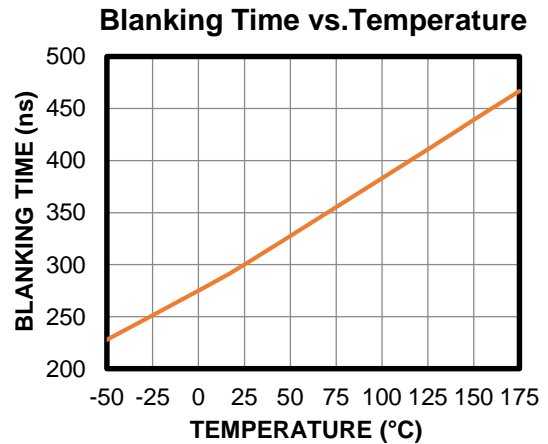

Figure 2: Blanking Time vs. Temperature
The value of the inductor affects the driver's maximum current capability. There is a blanking time in the boost converter, and the inductor current is not detected during the blanking time. The relationship between the blanking time and temperature is shown in Figure 2. To ensure that the inductor current does not exceed 220mA during the blanking time, the inductor value (L) should meet the condition estimated with Equation (7):